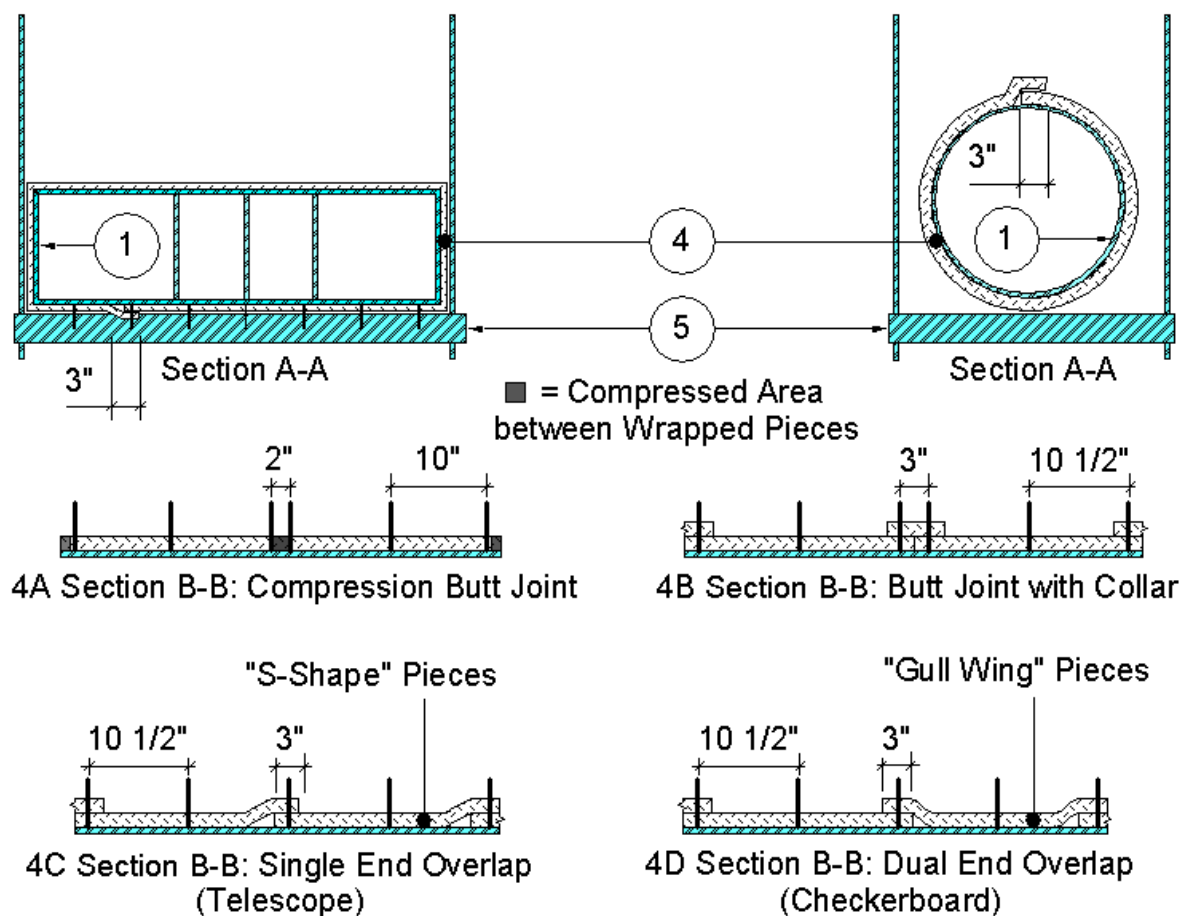

Figure 2
2. FASTENERS: Refer to Figure 2. Weld minimum 12 gauge (ga.), 4-1/2-in. long, copper-coated steel insulation pins or 12-ga. insulated cup head pins to the ventilation duct (Item 1). Match fastener method with corresponding insulation (Item 4) method.
INSULATION: Refer to Figure 2. Apply one layer of nominal 1-1/2 in. thick, 6-pound-per-cubic foot (pcf) blanket, made of fibers, encapsulated with foil scrim over the entire surface of the ventilation duct (Item 1) and a collar on each side of the penetration firestop (Item 1D). Apply the insulation in accord with one of the four methods (A, B, C, or D) that follow. Use blanket that is encapsulated with a polypropylene/foil scrim or an aluminized polyester/scrim/foil. Wrap one layer of